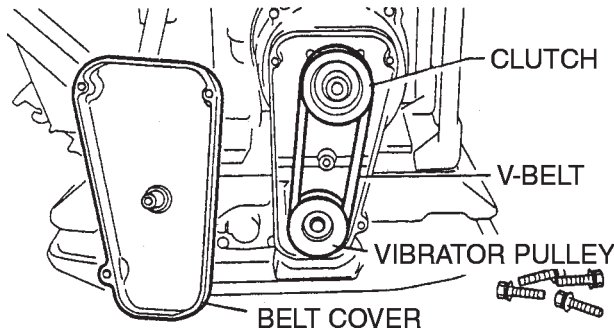

Figure 30. V-Belt Check
1. After 200 hours of operation, remove the belt cover to check the V-belt tension (Figure 30). Tension is proper if the belt bends about 3/8" (10 mm) when depressed strongly with finger between shafts. Loose or worn V-belts reduces power transmission efficiency, causing weak compaction and reduces the life of the belt itself.